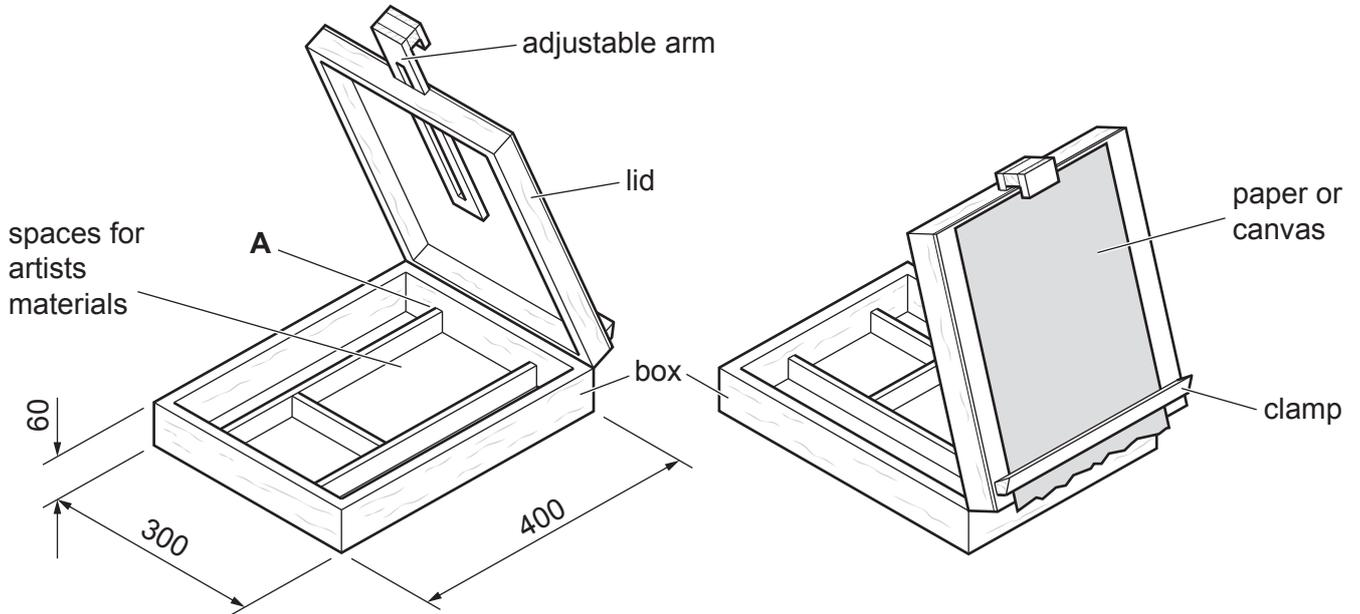
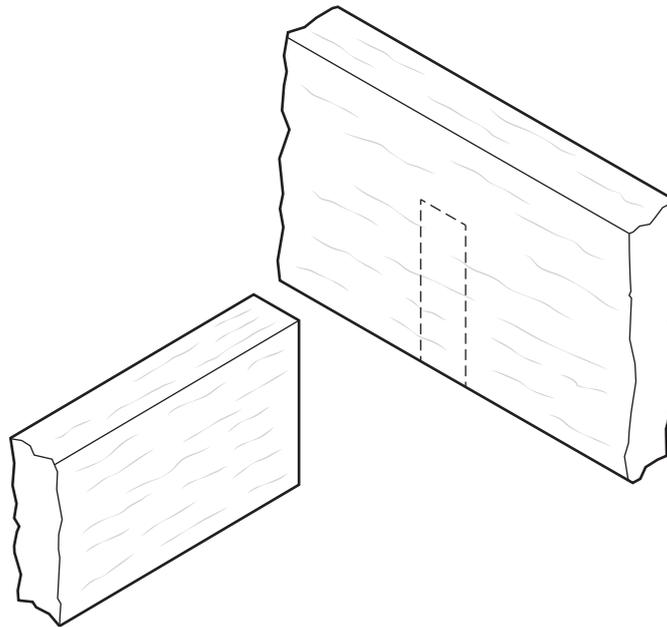

Fig. 11.1
Fig. 11.4
- 11 Fig. 11.1 shows views of an incomplete design for a desktop box easel. The outer frames of the box and lid are made of 15 mm thick hardwood. The top of the lid and the base of the box are made from 6 mm thick veneered plywood.
Fig. 11.4 shows part of the sides of the compartment shown at position **A** in Fig. 11.1.
Complete Fig. 11.4 to show a suitable construction that could be used to join the sides at **A**.